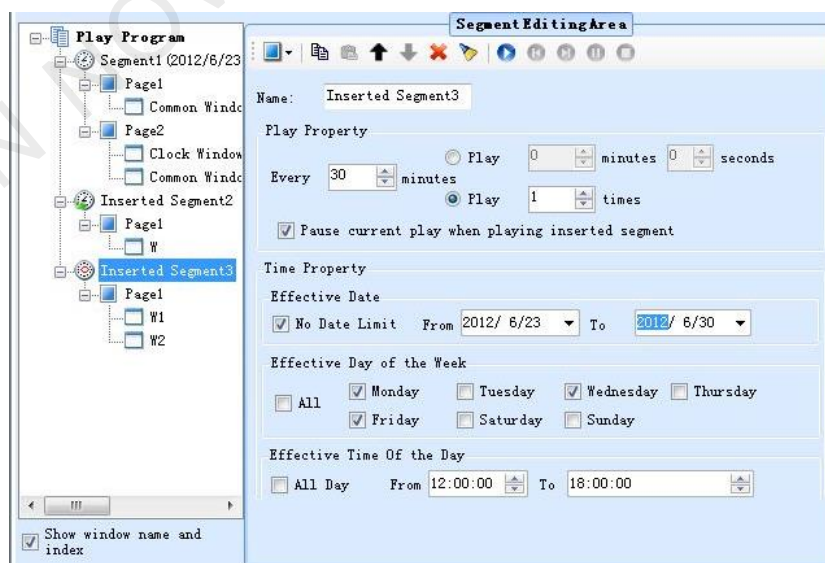

Fig. 10-10 Cycle inserted segment **Inserted Segment3**
- If B is at the back of A in the play program, then B has the priority to be played on time confliction. The dispatching results will be shown as Fig.10-10 (In June 24, 2012).